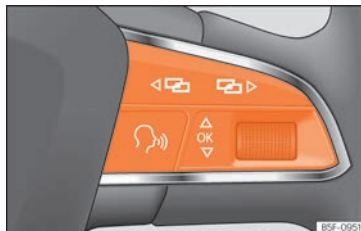

Fig. 81 Multifunction steering wheel: buttons for using the instrument panel menus.
hidden with the button **OK** of the multifunction steering wheel »» Fig. 81.
- If a message or vehicle symbol is displayed, press the button **OK** »» Fig. 81; if necessary, several times.
- To change menus, use buttons **◀** or **▶** »» Fig. 81.
- To open the menu or the information displayed, press the button **OK** »» Fig. 81 or wait a few seconds until the menu or the information display opens automatically.
- In the menu displayed, turn the right thumb-wheel of the multifunction steering wheel »» Fig. 81 until the desired option of the menu is highlighted. The option appears framed.
- Press the button **OK** »» Fig. 81 to make the required modifications. A mark indicates that the system or function is activated.
Press the button **◀** or **▶** »» Fig. 81.